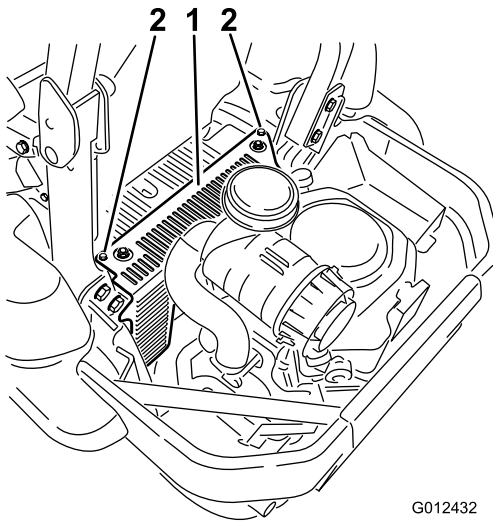

Figure 58
3. Remove the hydraulic-unit shroud and the 2 bolts attached to it (Figure 58).
5. Install the hydraulic-unit shroud (Figure 58).